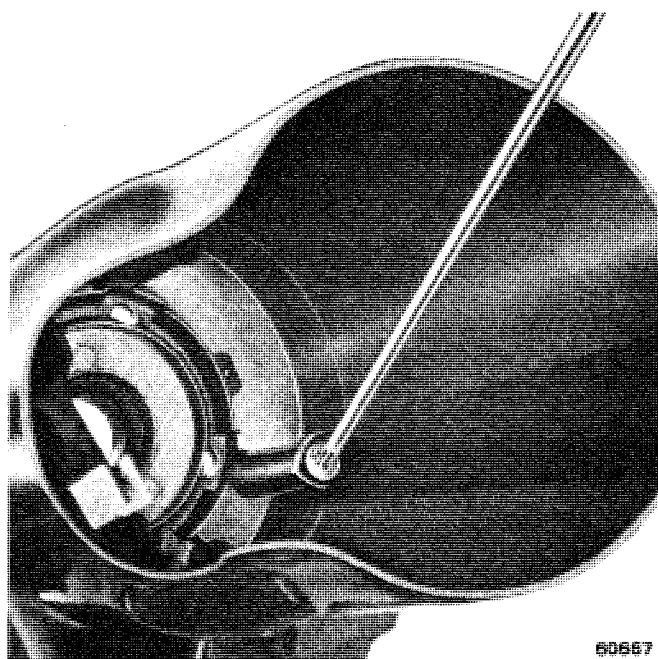

Fig. 2J-11 Removing Shroud From Housing
(23) Remove wave washer from key-release lever pivot and remove key-release lever and spring (fig. 2J-12).